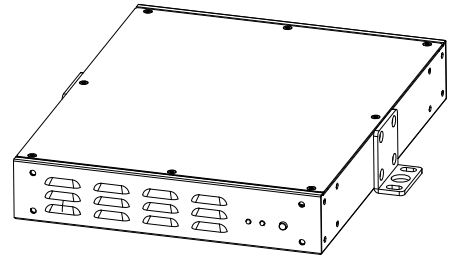

Figure 4: Setup for wall mounting
2. Using eight of the supplied screws, fasten the supplied short rack mounting ears to the sides of the DMX PowerPort 375 as shown in Figure 4.